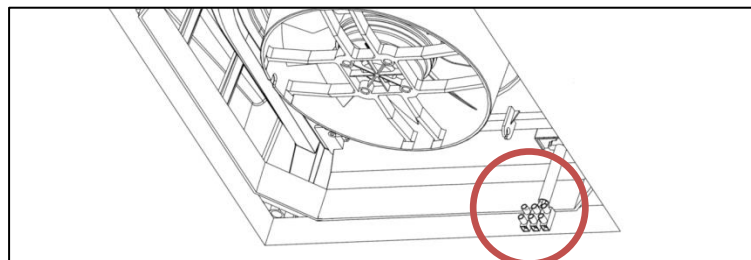

Fig 7: Highlights the position of the terminal strip underneath the unit
- Refer Fig 7 for position of terminal block.